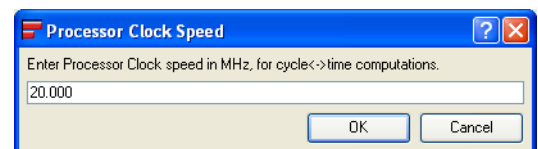

Figure 9-6 Defining processor speed
1. Select **Define Processor Speed for Scaling...** from the **View** menu to display the Prompt dialog box. Figure 9-6 shows an example: